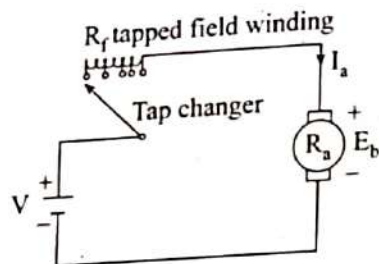

Fig. 5: Tapped field control method.
- In this method, the series field winding is provided with number of tappings as shown in Fig 5.